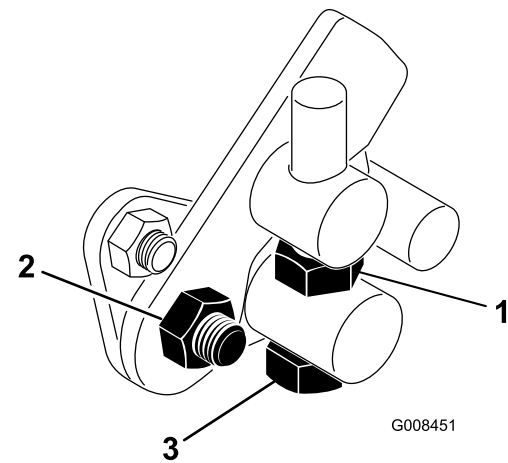

Figure 44
1. Loosen the jam nut on the trunnion bolt (Figure 44).